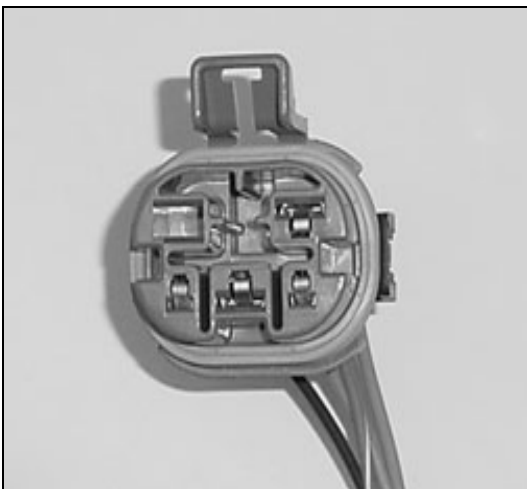

FIGURE 7.5 Fuel Pump Relay Connector
- I. **Fuel Pump Relay-** Plug this connector into the factory fuel pump relay (Delco# 15-8571) See **Figure 7.5**